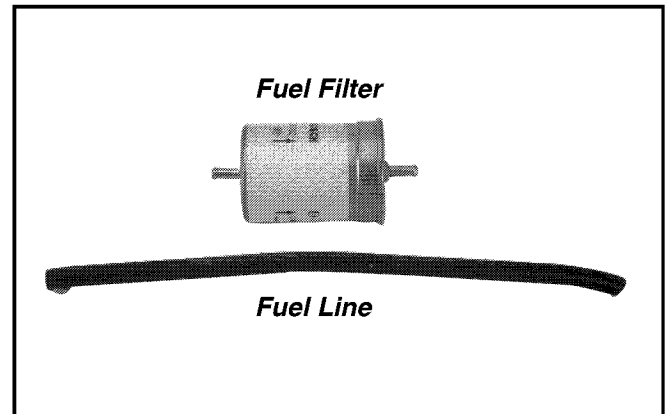

Figure 15. EFI Fuel Filter and Line.
**EFI Engines:** A special, high volume, high pressure filter with greater filtration capabilities and internal surface area is used. See Figure 15.
**EFI Engines:** A special fuel line, capable of withstanding the high pressure of the EFI fuel system, is used (must meet SAE R9 specifications). See Figure 15. If fuel line must be replaced, see your Kohler Engine Service Dealer.